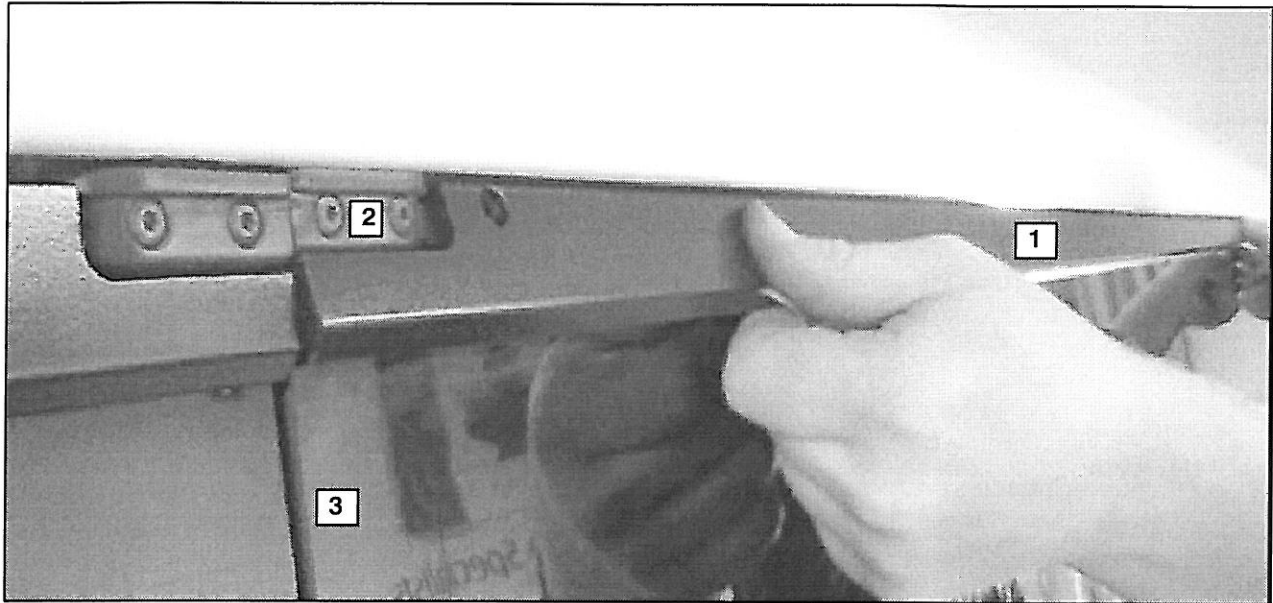

Figure 3.
21. Align the hinge clip with the window (fore and aft) and swing the clip down until the double-sided tape contacts the glass (refer to Figure 3).